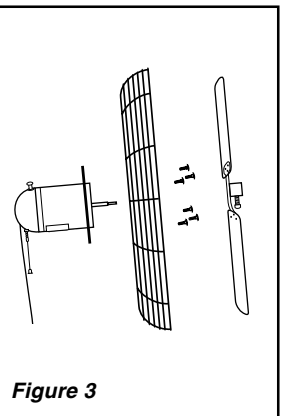

Figure 3
- Locate the wall or ceiling stud nearest to the desired Fan location. Attach the Bracket to the stud using (3) 5/16" diameter x 2" long Lag Screws or appropriately sized Bolts and Nuts if attaching to "I" beams.
- Put rear grill onto motor, Lining up the six holes in the grill with the six threaded holes in the mounting flange. Install six 10-32 x 5/16 hex bolts through the grill into the mounting flange. Securely tighten all bolts. (Figure 3)
- Push Fan Blade onto Motor Shaft, center Hub facing away from Motor, until it stops against Shaft. **Align Bolt Head Set Screw with Flat of the Motor Shaft. TIGHTEN VERY SECURELY WITH AN ADJUSTABLE WRENCH.** Failure to securely tighten Set Screw could result in damage to the Fan and/or personal injury. (Figure 3)